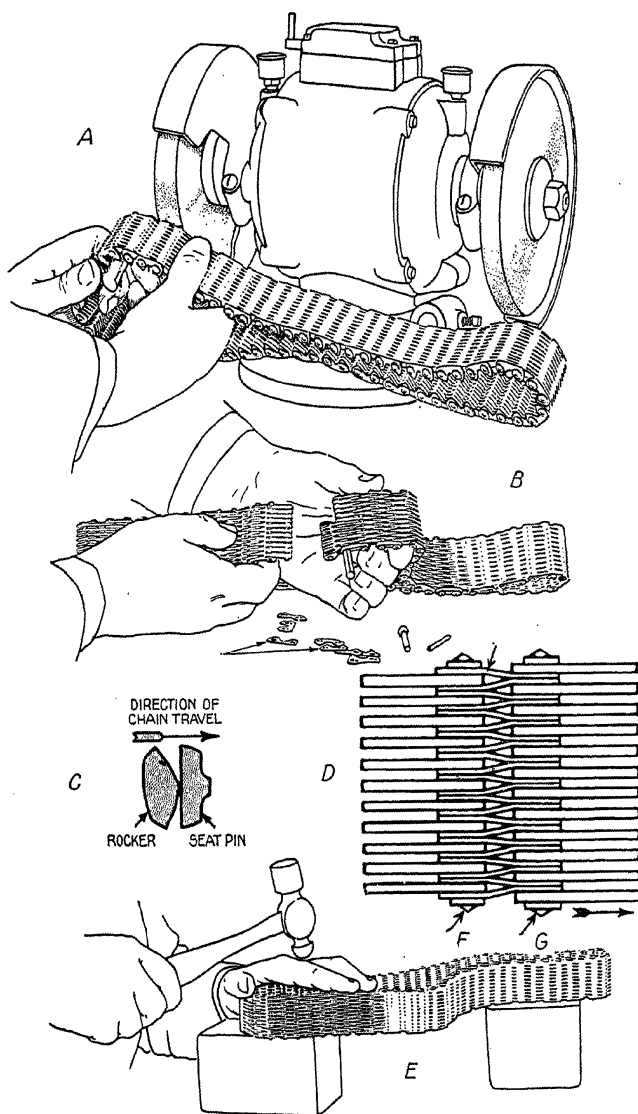

Fig. 21. Method of Removing Hunting Link and Refitting Shortened Chain
**Removing Timing Chain.** The timing chain may be removed by finding the special joint which is frequently used in assembling these chains. Sometimes no special link or joint is used and under these circumstances the only way to open the chain is by the use of a grinder such as shown at *A* in Fig. 21. This means that the chain
**Shortening Timing Chain.** The usual practice is to provide timing chains with what is termed as hunting links, as shown at *D* in Fig. 21. After a chain has worn and stretched the amount of one link, it will be seen that the removal of the hunting link will shorten the chain up to its original length. That is the reason the hunting link is provided by the chain manufacturers. Not all chains are provided with hunting links, however, and when the chain which is not provided with one is to be shortened, it is necessary to remove two of the regular links and install a hunting link.
When opening a chain which is not provided with a special link for opening, it is necessary to grind off two of the seat pins, as shown at *A* in Fig. 21. These pins are indicated at *F* and *G*. The chain will then be separated as shown at *B*. After the hunting link has been removed, the chain is reassembled as shown at *E*, using a new seat pin. Always use the old rocker pins and new seat pins, being certain to install them as shown at *C*. If the rocker